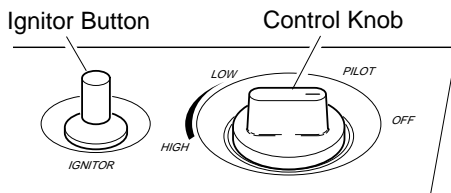

Figure 16 - Control Knob In The OFF Position
4. Wait five (5) minutes to clear out any gas. Then smell for gas including near the floor. If you smell gas, STOP! Follow "B" in the safety information on page 11, column 3. If you don't smell gas, go to the next step.
5. Press in control knob and turn counterclockwise  to the PILOT position. Keep control knob pressed in for five (5) seconds (see Figure 16).